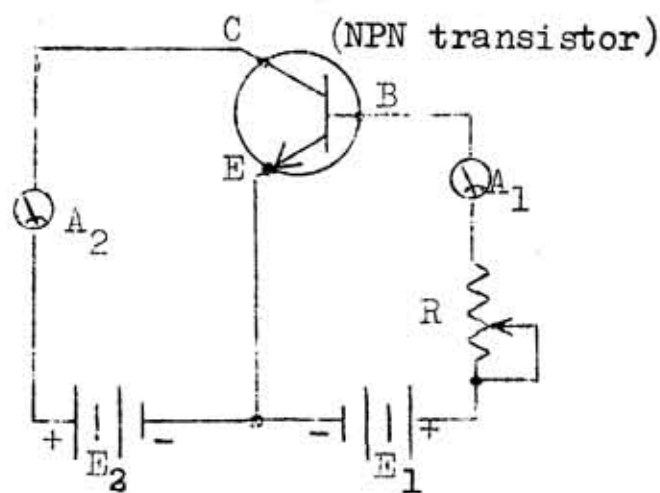
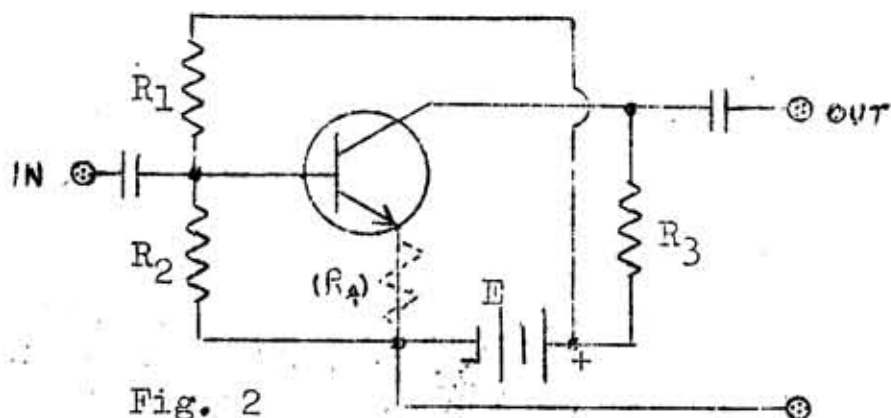

Fig. 1.
Fig. 2
**Amplifier Bias.** Now what is a transistor? A considerably degraded version of a valve, but it still manages to do the same thing in most instances: amplify. One does often see the statement that a transistor is basically a "current amplifier", and one can look at it that way, but one can do the same for a valve too. The fact is that circuits can be arranged so that either amplified current or voltage or both appear at the output of a given stage. Let us, however, for purposes of testing, remain with the current-amplification concept. How to test how much amplification one will obtain from a transistor? Bias it a bit out of cutoff, as you would with a valve, and watch the output while varying the input, as in Fig. 1. If  $E_1$  and  $R$  are large enough, the input resistance of the transistor (usually 1K or less) will be relatively small, and input current will be dependent mostly on  $R$ , thereby making it a "current generator". Amplification,  $\beta$  is the measure of the increase in output for a certain increase in input current, or the a.c. current gain;
See Fig. 2.  $R_1$  biases the base to a reasonable value (eg for collector current of 1mA), analogous to  $R$  in Fig. 1.  $R_2$  bleeds some current through  $R_1$  so that the bias won't be affected (so much) by temperature sensitivity of the transistor, and of course  $R_3$  is the collector load resistance. It's value should be chosen to give about half the battery voltage across the transistor.
A more exact relationship would take account of the fact that the input resistance consists of the resistance of the base-emitter junction,  $R_2$ , and the signal source resistance -- all in parallel. And the output resistance consists of  $R_3$  and the load resistance in parallel. This latter situation can be important in cascaded common emitter amplifier stages, where the input resistance of the next stage may be of the order of 1K. Indeed, you can see that if the total load resistance is equal to the total input resistance, the voltage amplification available will be limited to about the value of  $\beta$ . Now, I mention the amplifier configuration, because that is part of testing too. A transistor must do more than amplify. It ought to do it with reasonable linearity and stability, and this can be ascertained from the amplifier configuration. The fact is that the transistor is a wretched device for amplifying, compared to a valve, and you will find that the circuit of Fig 2 will be improved considerably by adding a resistor in series with the emitter, or by running  $R_1$  to the collector instead of battery. These modifications introduce inverse feedback which increases input impedance, has the advantage of reducing the effect of temperature of amplifier behaviour, and of giving similar results with different transistors. But the refinements increase the circuit complexity somewhat, and make it more difficult to calculate results. Let's assume that  $R_1$  stays where it is, and we have added a resistor in series with the emitter (you can write it in at the appropriate place in Fig. 2, and call it  $R_4$ ); here is a summary of the calculations for resistances needed: